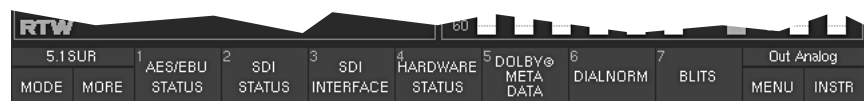

Fig. 3-7: The second Toolbar instrument level (displayed by selecting MORE)
2. If you want to choose one of the other seven instruments, press or click the **MORE** key/button. The buttons numbered 1 to 7 in the Toolbar now show a second level of available instrument types (display modes, see Fig. 3-7).